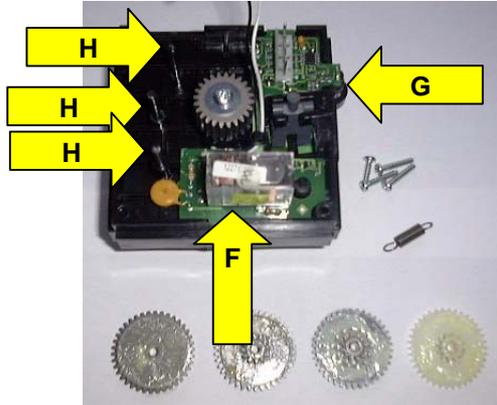

Figure 4:
Remove the PCB (F), the optic shroud (G) and using a pair of pliers, remove the 3 shafts (H) (Figure 4) by pulling them out of the bed – **DO NOT BEND**.